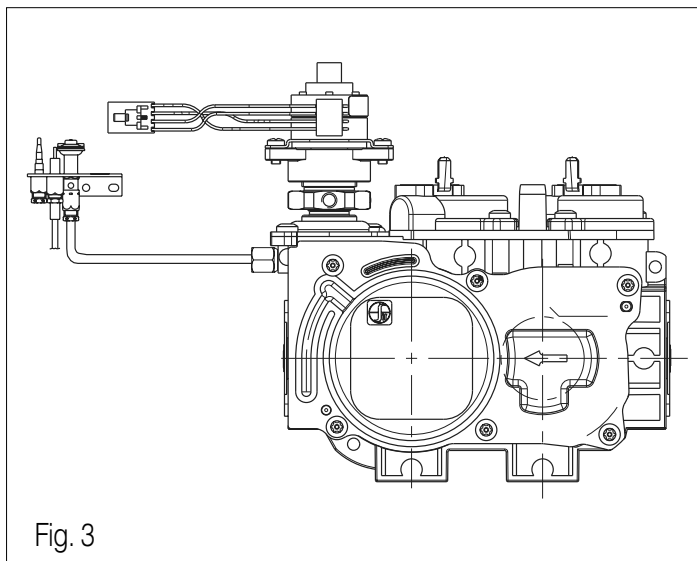

Fig. 3
7. Connect pilot tubing to valve with appropriately sized fittings as shown in Fig. 3.